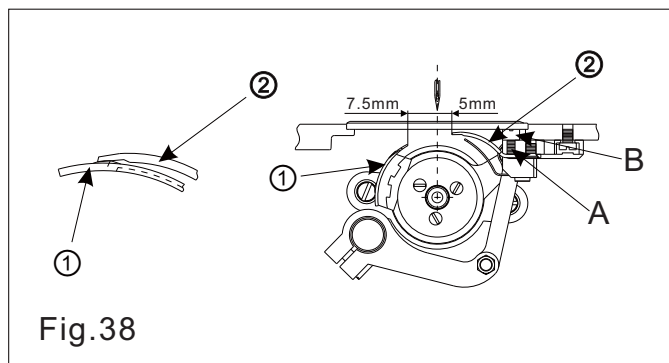

Fig.38
6. Adjusting the knives (Fig.38)